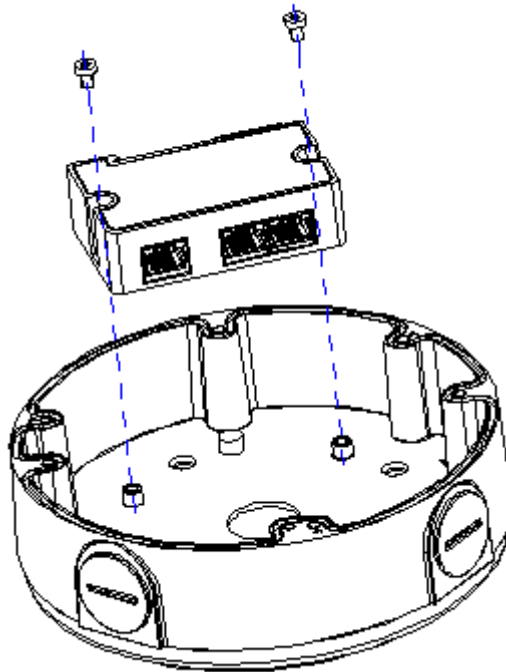

Figure 3-1
1. The junction box internal mounting is shown in Figure 3-1.